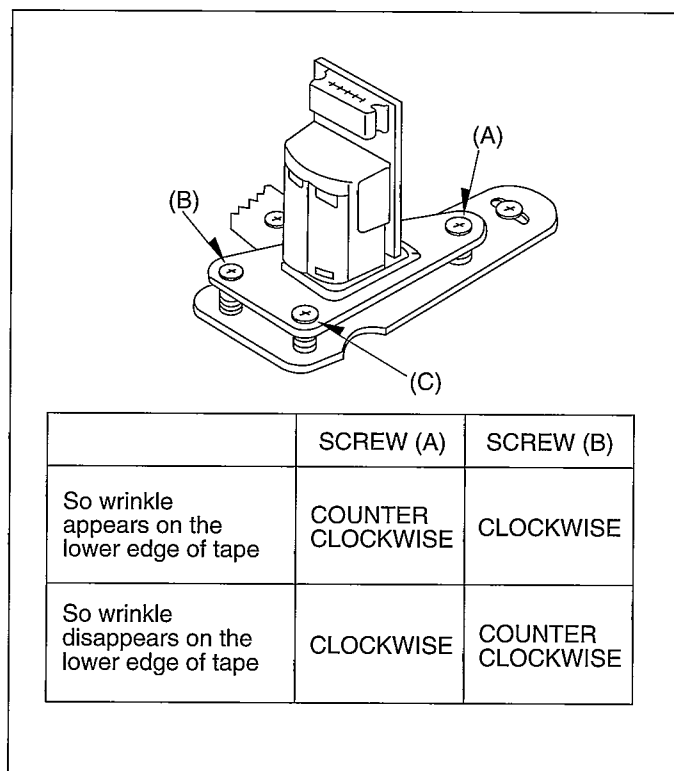

Fig. M11
- (1) Install A/C Head on the Mechanism Chassis by one screw.
- (2) Playback the Alignment Tape.
- (3) Rotate the screw (A) or (B) until the wrinkle appears on the lower edge of tape at P4 Post.
- (4) Rotate the screw (A) or (B) until the wrinkle just disappears on the lower edge of tape at P4 Post.
- (5) Connect the oscilloscope to audio output terminal.
- (6) Rotate the screw (C) until audio signal is maximized.
NOTE: 1. The relation between the rotation direction of screws (A) and (B) and the condition of wrinkle on the lower edge at P4 Post as shown in Fig. M11.